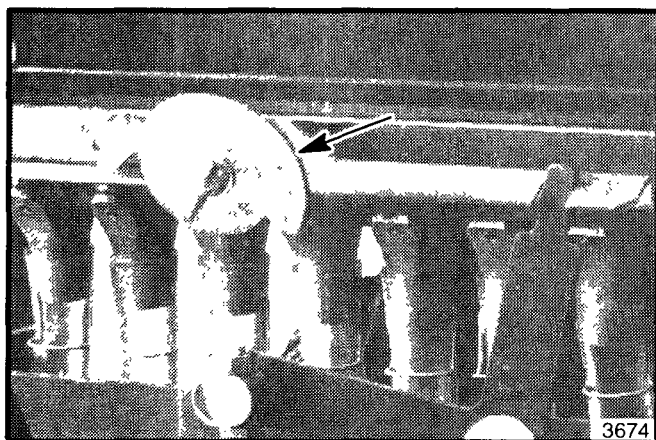

Figure 6. Feed Control Cam
- 3 Set the feed control cam on the hopper (see figure 6) according to the "Seed Feed Chart" located inside the hopper cover. Fill the hopper with seed.